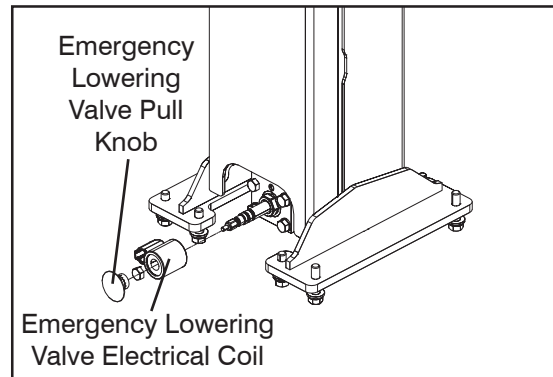

Figure 5-17. Emergency Lowering Pull Knob and Electrical Coil Removal
2. Disconnect and remove the emergency lowering valve electrical coil and pull knob from the lift cylinder manifold. See Figure 5-17.